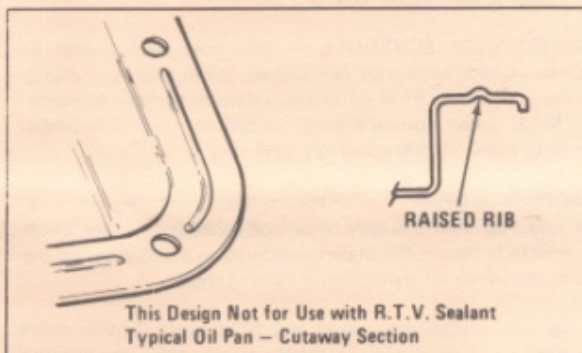

Figure 42 — Raised Rib Oil Pan Design
1. R.T.V. Sealant is an effective gasket substitute for the following applications, depending on pan design. If R.T.V. is used on an oil pan or side cover, the flange surface must be either flat or have depressed stiffening ribs. Do not use R.T.V. on pans which have raised stiffening ribs (see figure 42).
has depressed stiffening ribs, the bead of R.T.V. must be installed on the high portion of the surface, not in the groove. (See figure 42.)